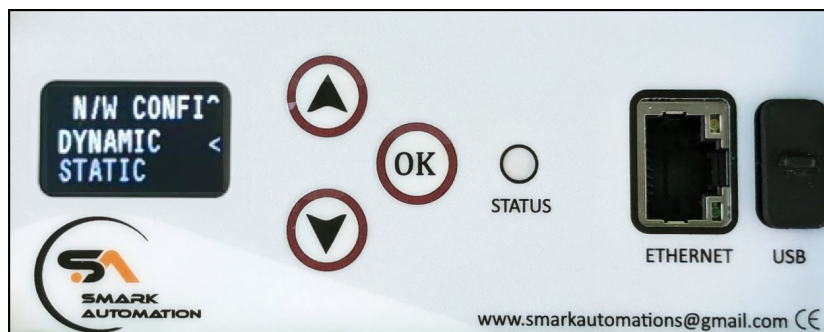

Figure 23: Network Type Configuration
2. **Select Network Configuration Type:** User need to choose the type of network configuration for device i.e. either Dynamic or Static as shown in Fig 23. This determines how the device will obtain its IP address and other network settings.